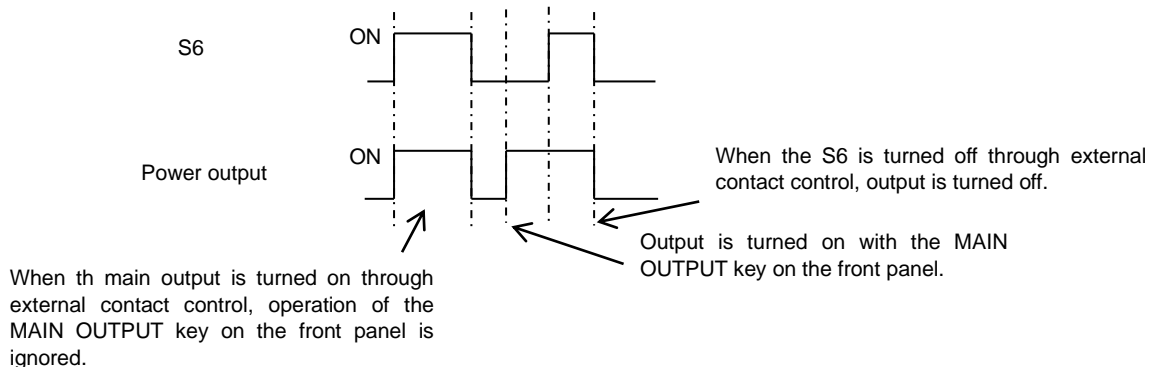

Fig.15 Relationship between S6 and the MAIN OUTPUT Key on Front Panel.
- Fig.15 shows the relationship between S6 and the MAIN OUTPUT key on the front panel.